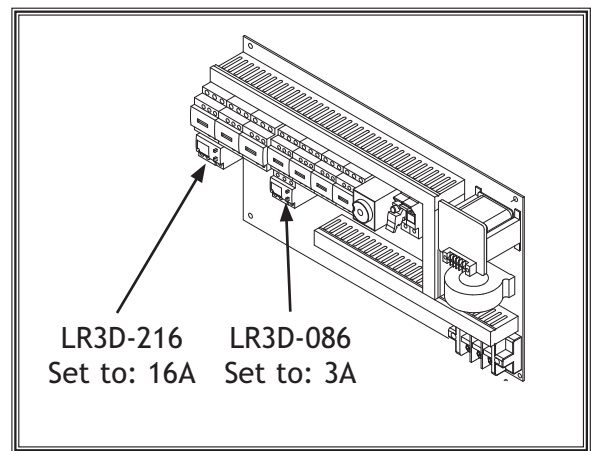

Figure 6. Thermal overload relays.
4. Refer to **Figure 6** and open the main wiring box on your machine.
5. Swap out the applicable thermal relays at the locations shown in **Figure 6** or in the photo on **Page 54**, and set them to 16A and 3A.